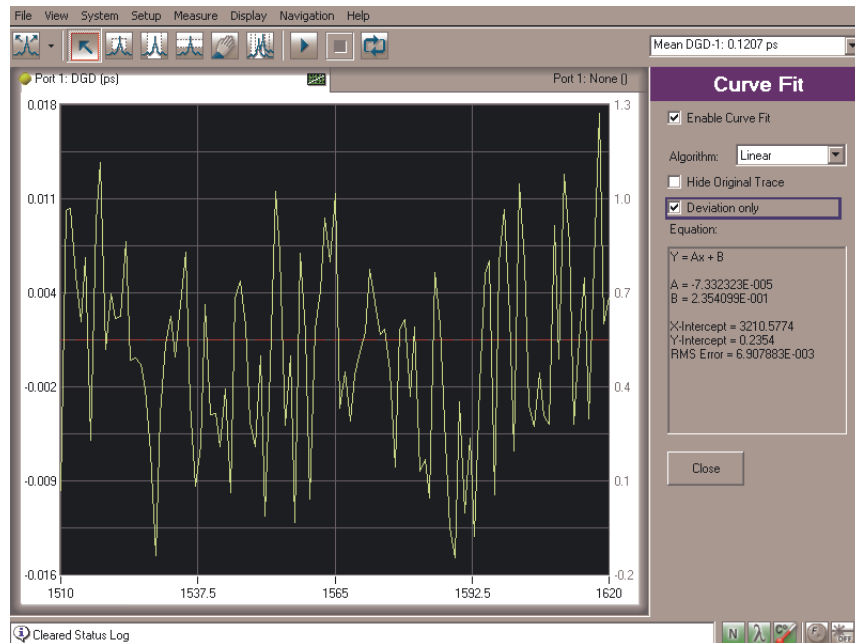

Figure 7 Sample DGD trace for the MXF fiber
- a Check the DGD curve. The MXF patch-cord includes a length of polarization maintaining fiber to provide a DGD offset of about 0.15 ps. (This value is not calibrated for the device under test.) Check to see that the average DGD value lies between about 0.1 and 0.2 ps. Then use the Curve Fit function with a linear fit to display the Deviation values from the fit, as shown in Fig. 7. The